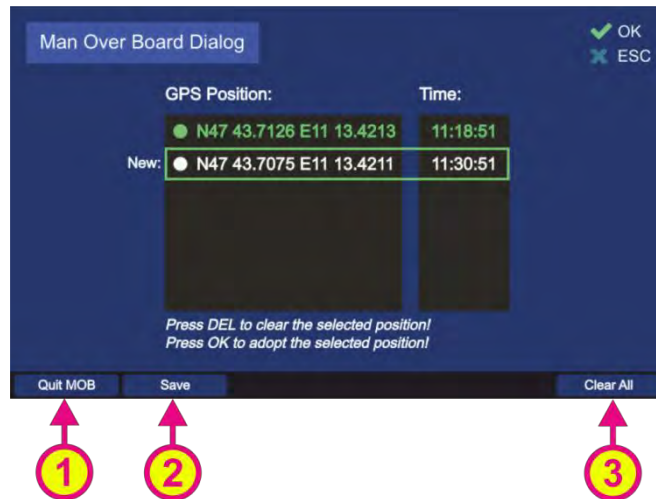

Figure 150. "Man Over Board" dialog
- o Press "Quit MOB" (s. Figure 150, position 1) to quit the dialog. This hotkey is used to quit the MOB mode. By pressing this hotkey an extra dialog will appear for additional confirmation.
- o Press "Save" (s. Figure 150, position 2) to save the current GPS position. Pressing this hotkey will save the new GPS position and move the line with the new position above the current position. Furthermore, the new position will be shown gray as it has not been adopted for MOB mode.
- o Press "Clear All" (s. s. Figure 150, position 3) to delete all saved positions.